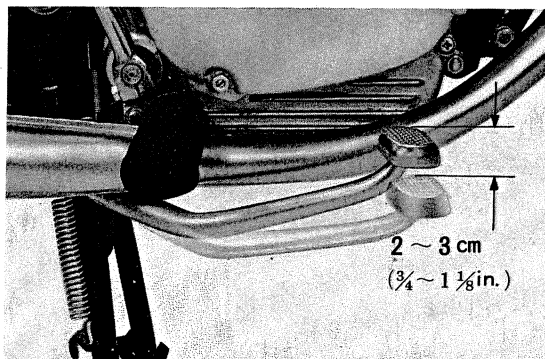

Fig. 21 Brake pedal play
Check the brake free play at the end of the brake pedal. The play should be **2-3 cm (3/4-1 1/8 in.)**. (Fig. 21) If it is not within this range, adjust it in accordance with the following procedure.
1) Turn the adjuster nut clockwise to reduce the amount of play in the brake pedal. (Fig. 21)